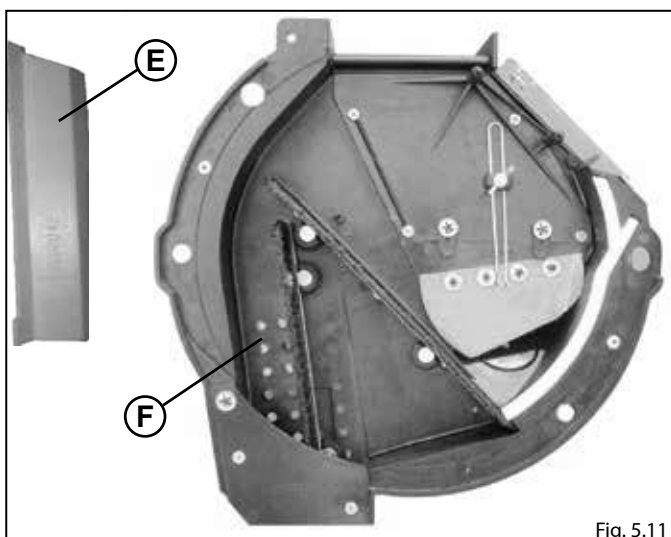

Fig. 5.11
- Mount expeller **E** in point **F** of the coverplate, paying attention NOT to damage the brush (Fig. 5.11).